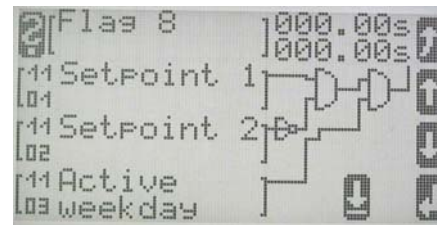

Figure 3-4
- Application: Setpoint 1 and 2 can trigger a "Start req. in auto" daily between 8:00 (AM) and 17:00 (5:00PM). This is the default setting for flag 8 (Figure 3-4). For a start in automatic, the result of flag 8 (00.08) must be entered as input condition in "Start req. in auto".
- Application See Figure 3-4 above, default is set to run the engine every Monday till Friday but not on Saturday and Sunday.